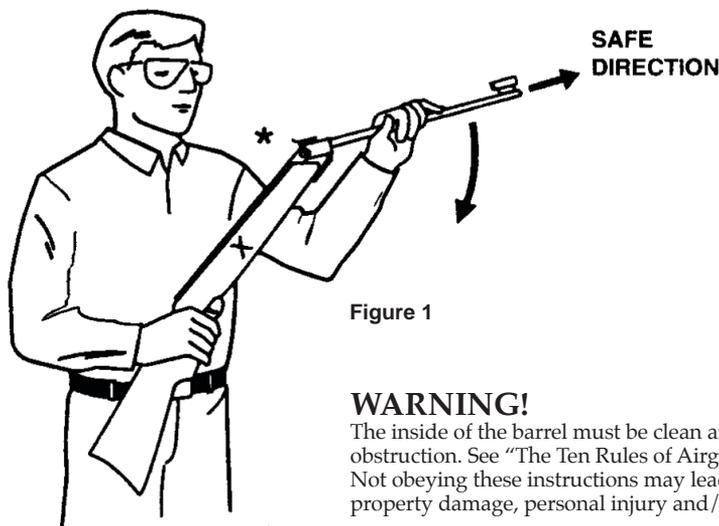

Figure 1
2. With one hand, hold the stock at the pistol grip or middle of forearm (marked x in the Figure 1).
3. Holding the airgun firmly with one hand, tap barrel behind the front sight in order to break open the barrel, but do not cock the airgun. See Figure 1.